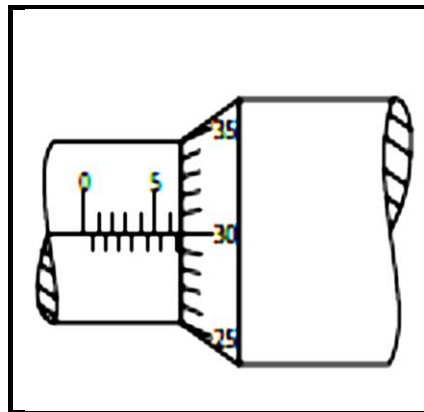

FIGURE 7.3
7.3 Determine the pitch from the screw thread micrometres shown in FIGURE 7.3.